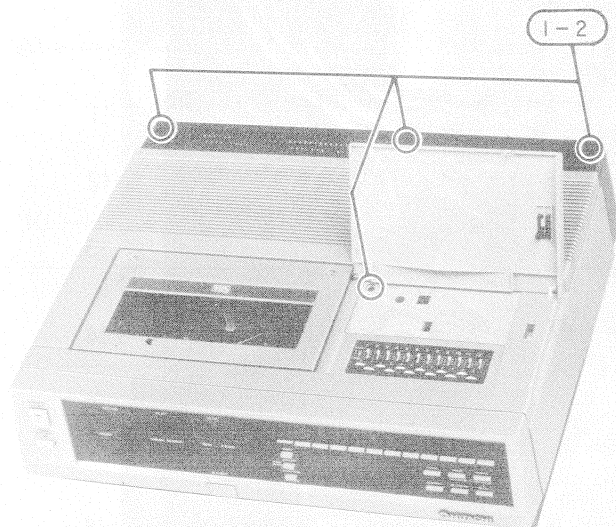

Fig. 6
1. Top panel (Fig. 6)
- 1) Top panel (Fig. 6).